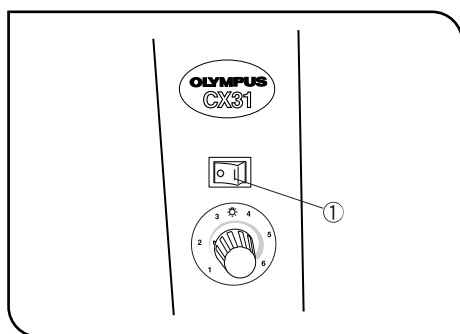

Fig. 4
## 2 Connecting the Power Cord (Figs. 4 - 6)
▲Make sure that the main switch ① is set to “O” (OFF) before connecting the power cord. (Fig. 4)